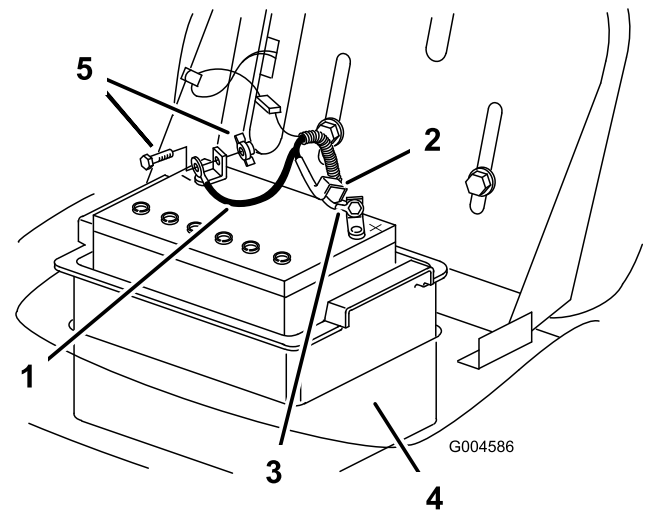

Figure 26
7. Disconnect the negative (black) ground cable from the battery post (Figure 26).
9. Disconnect the positive (red) cable from the battery post (Figure 26).
10. Remove the battery box and battery from the chassis (Figure 26).
1. Put the battery into the battery box and install it into the chassis (Figure 26).
2. Using the bolt and the wing nut, connect the positive (red) cable to the positive (+) battery post (Figure 26).
4. Using the bolt and wing nut, connect the negative (black) cable to the negative (-) battery post (Figure 26).